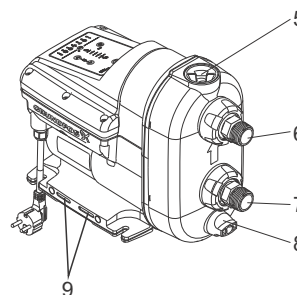

Fig. 20 SCALA2 pump
5. Gradually open and remove the priming plug. See fig. 20 (5).
6. Remove the drain plug and drain the pump. See fig. 20 (8).
7. Unscrew the union nut holding the inlet connection. See fig. 20 (7). Depending on the installation type, it may be necessary to remove the pipes from both the inlet and outlet connections.
5. Gradually open and remove the priming plug. See fig. 20 (5). The plug and non-return valve are one unit.